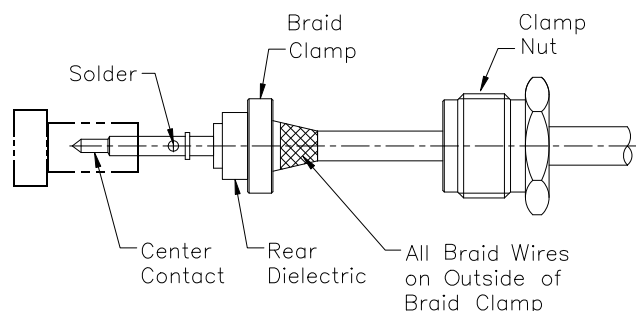

Figure 4
3.2. Solder Center Contact to Cable Inner Conductor (See Figure 4)